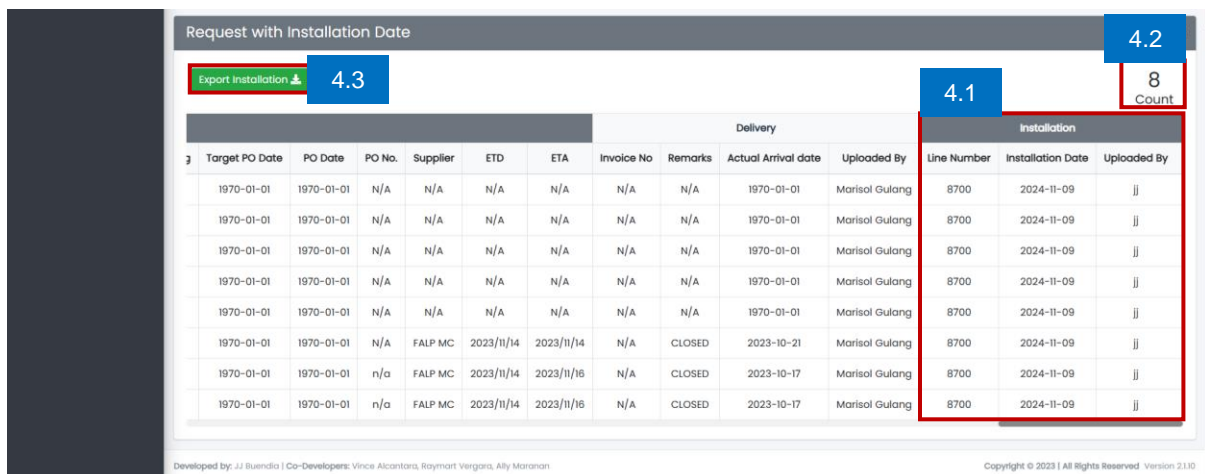

Figure 26. Request with Installation Date
- 4.1 Viewer has with installation date and line number. (See Figure 26)
- 4.2 View the count of requests with installation date and line number. (See Figure 26)
- 4.3 Export all installation data in csv format. (See Figure 26)